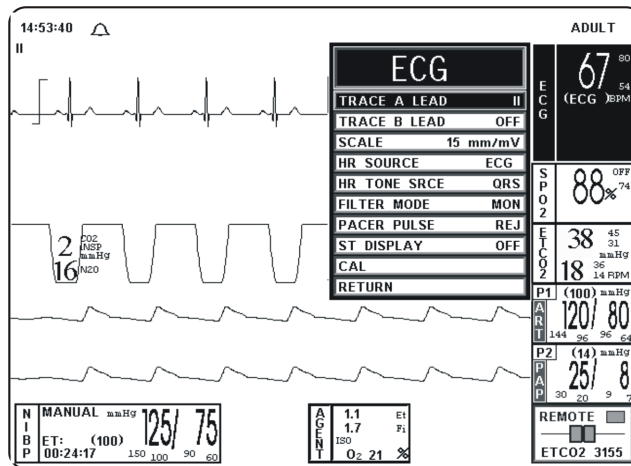

Figure 4-2. The ECG Menu
4.2.2 The ECG Menu. (See **Figure 4-2**) Selecting the **ECG Menu-Select Icon** brings up the **ECG Menu**. *This menu has a time-out feature. If no action is taken for approximately 60 seconds, the monitor will automatically return to the Normal Screen.*